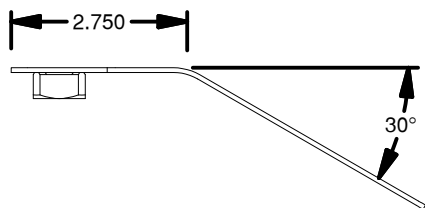

Figure D4: Bent nut guide.
- 5. Prepare the nut guide.** A 1/2" x 2" hex head bolt and nut guide will need to be utilized to install the passenger side forward bolt. Prepare the nut guide by putting a 30° bend in the handle about 2-3/4" from the top, see Figure D4.